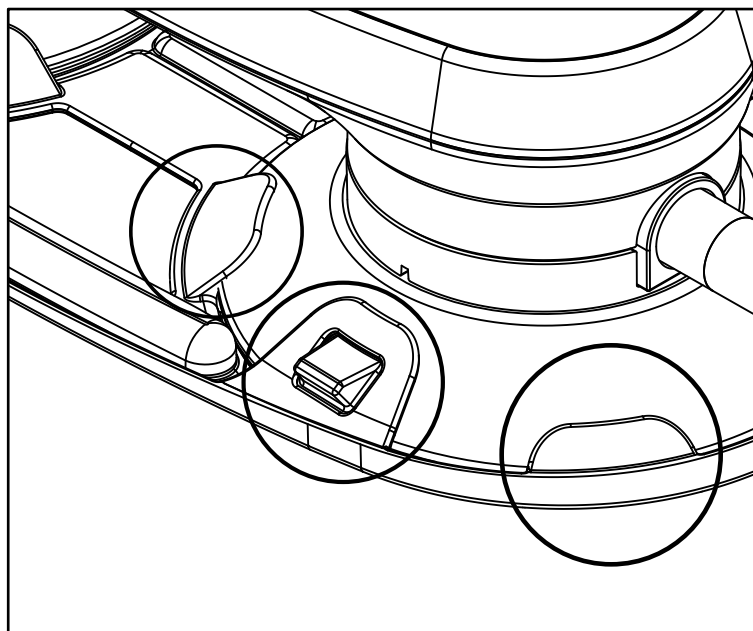

FIGURE 4
STEP 4: Ensure that the front cups are fully seated underneath the 3 overhangs on each side of the red protective suction cup cover. Ensure that the tab on the front of both front cups passes through the window on the middle overhang as shown in **Figure 4**.